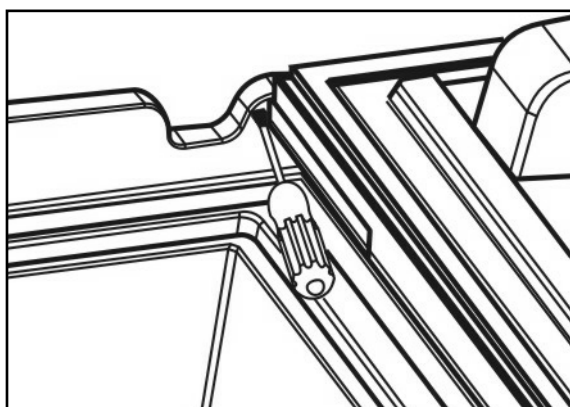

Figure 8.
- Loosen up 7 screws (1) of footframe and remove the footframe.
- Open the door and snap out the fixing tab (2) of the upper hinge pin by the help of screwdriver and push out the pin. (fig. 8.)
- Remove the bottom hinge pin (3) and the upper and lower hinge plug (4) in the same way as in case of the upper hinge pin.
- Snap in the lower hinge pin (3) to the desired side.
- Put back the door and the hinge washer and snap in the upper hinge pin (2).
- Snap in the 2 hinge plugs (4) too.